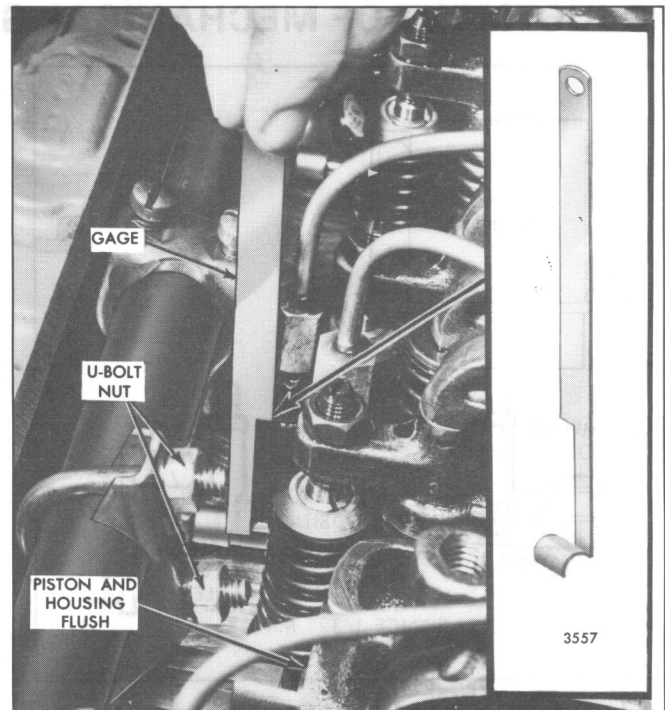

Fig. 6 – Adjusting Throttle Delay Cylinder (Former)
1. Refer to Fig. 6 and insert gage J 23190 (.454” setting) between the injector body and the shoulder on the injector rack. Then exert a light pressure on the injector control tube in the direction of full fuel.